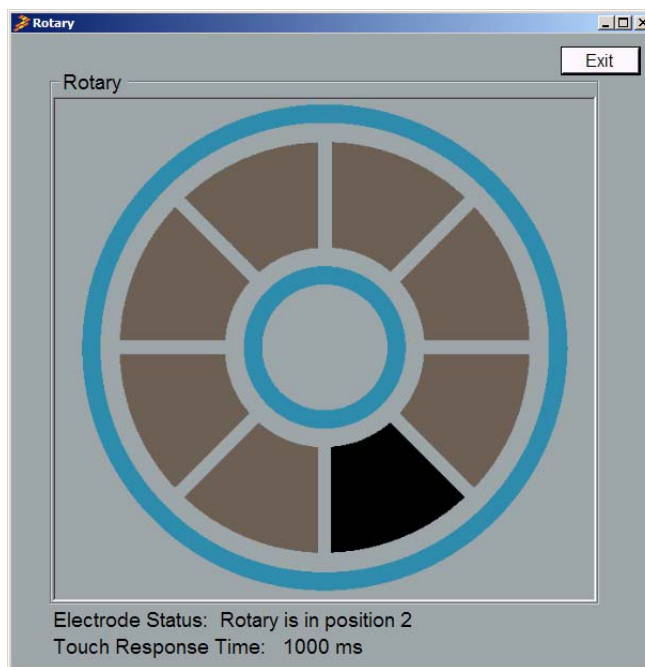

Figure 19. Rotary Form being pressed.
- 3) Touch one of the rotary pads on the board. The rotary pad being touched on the GUI will be black and the corresponding LED will be on, on the Freescale logo will be on after 1 s (Figure 19). Repeat these steps for all 8 pads on the rotary.
- 3) Touch one of the rotary pads on the board. The rotary pad being touched on the GUI will be black and the corresponding LED will be on, on the Freescale logo after 2 s (Figure 19). Repeat these steps for all 8 pads on the rotary.
- 3) Touch one of the rotary pads on the board. The rotary pad being touched on the GUI will be black and the corresponding LED will be on, on the Freescale logo after 300 ms (Figure 19). Repeat these steps for all 8 pads on the rotary.